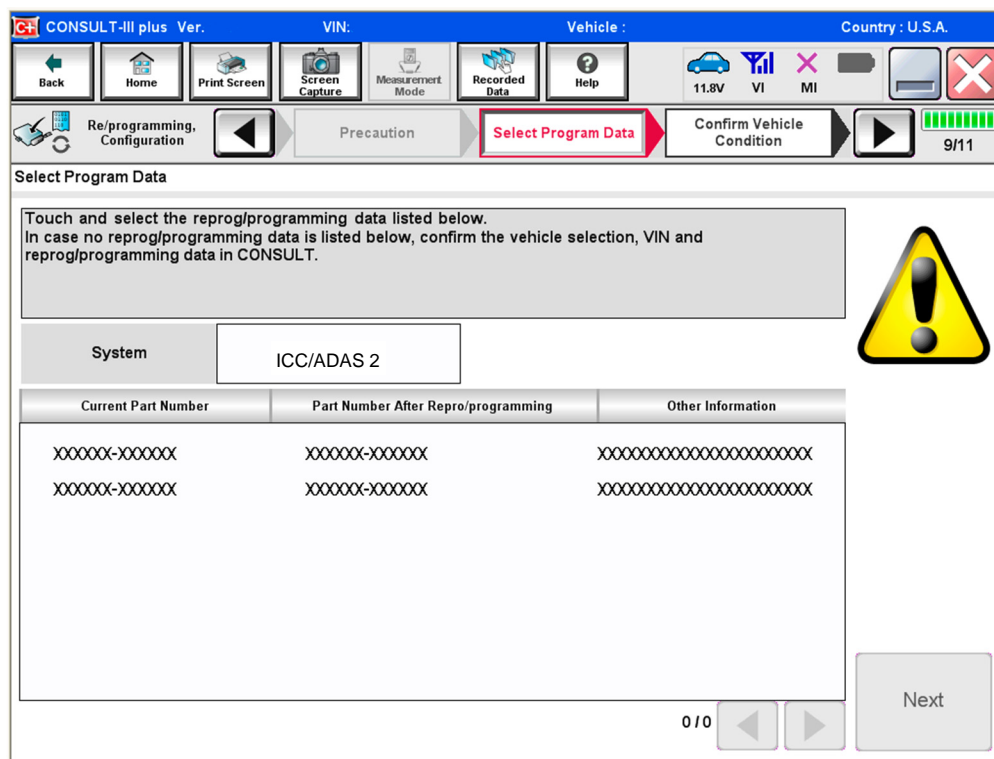

Figure 12
- If more than one new P/N is available, the screen in Figure 12 displays.